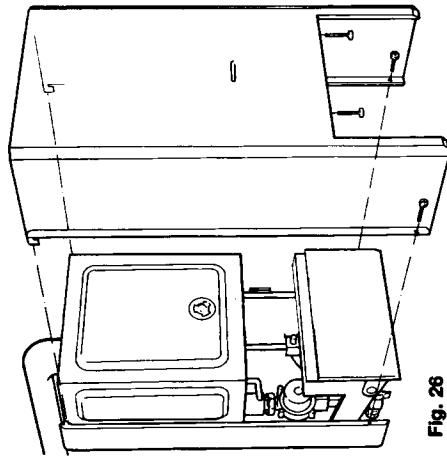

Fig. 26
To remove components access to the interior is essential. Refer to figs. 26 & 27. Ensure electricity supply is isolated before carrying out any servicing.
Release 4 retaining screws (fig. 26). Pull bottom of case slightly forward and push case upwards to disengage from top support hooks and withdraw the case from the appliance.
- Remove roomsealed front cover plate by releasing eight screws (fig. 26) and easing cover off. The screws are not captive. Inspect gasket for damage. If damaged, replace.
- 8.5.2** Remove roomsealed front cover plate by releasing eight screws (fig. 26) and easing cover off. The screws are not captive. Inspect gasket for damage. If damaged, replace.